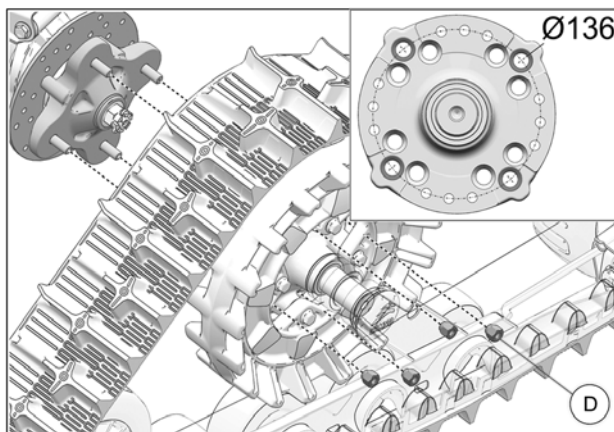

Fig. 10
9. Secure undercarriage to rear hub using the provided M12 lug nuts (D). Use bolt circle Ø136 mm. See Fig. 10
8. Using the provided M12 lug nuts (D), secure undercarriages to the front wheel hubs. The procedure and precautions are the same as for rear units. Refer to Fig. 10